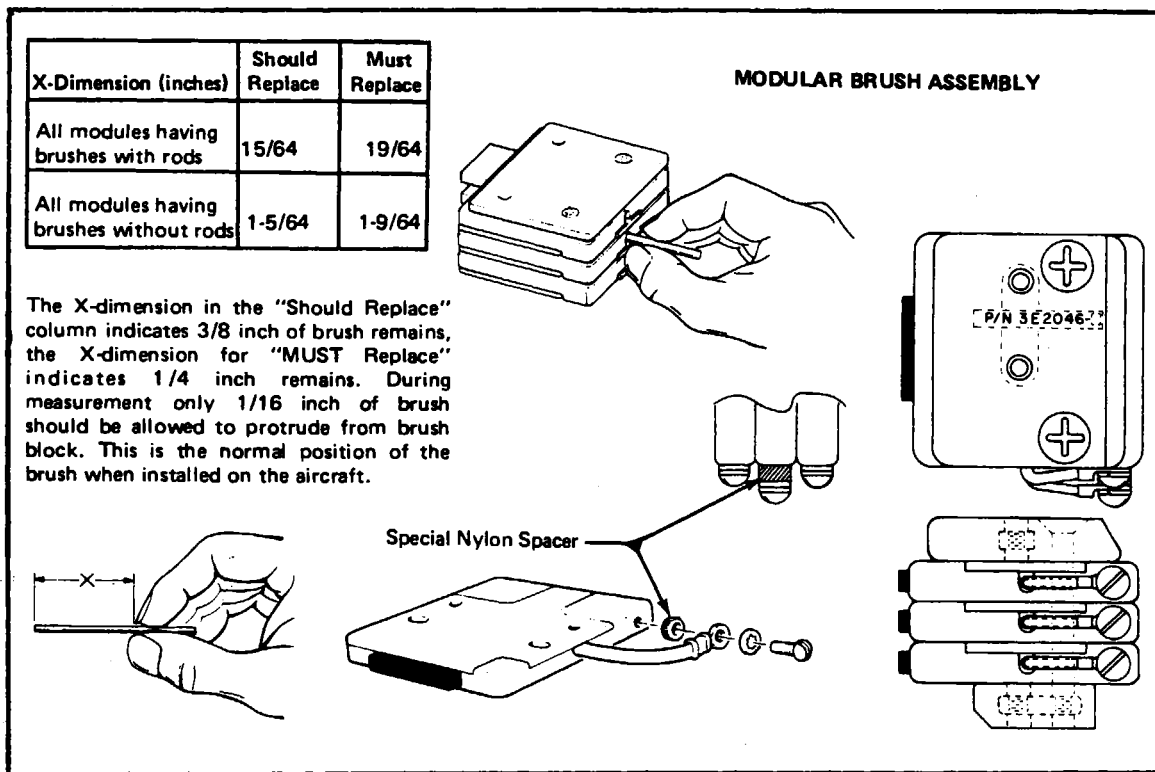

Figure 14-24. Modular Brush Assembly
- c. Restack modules and spacers as shown in Figure 14-24. If there is interference between adjacent ring terminals, reorient center module as shown in Figure 14-24.